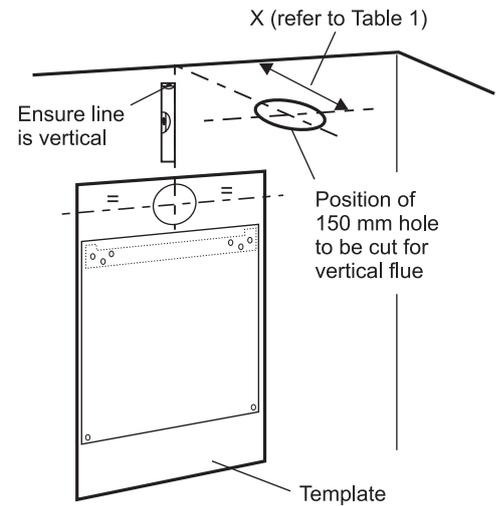

Fig. 2
- a. When the template is on the wall in the boiler position, continue the vertical line from the centre of the flue hole up to the roof/ceiling position. Mark the centre position of the flue hole from this line as shown in Fig. 2.